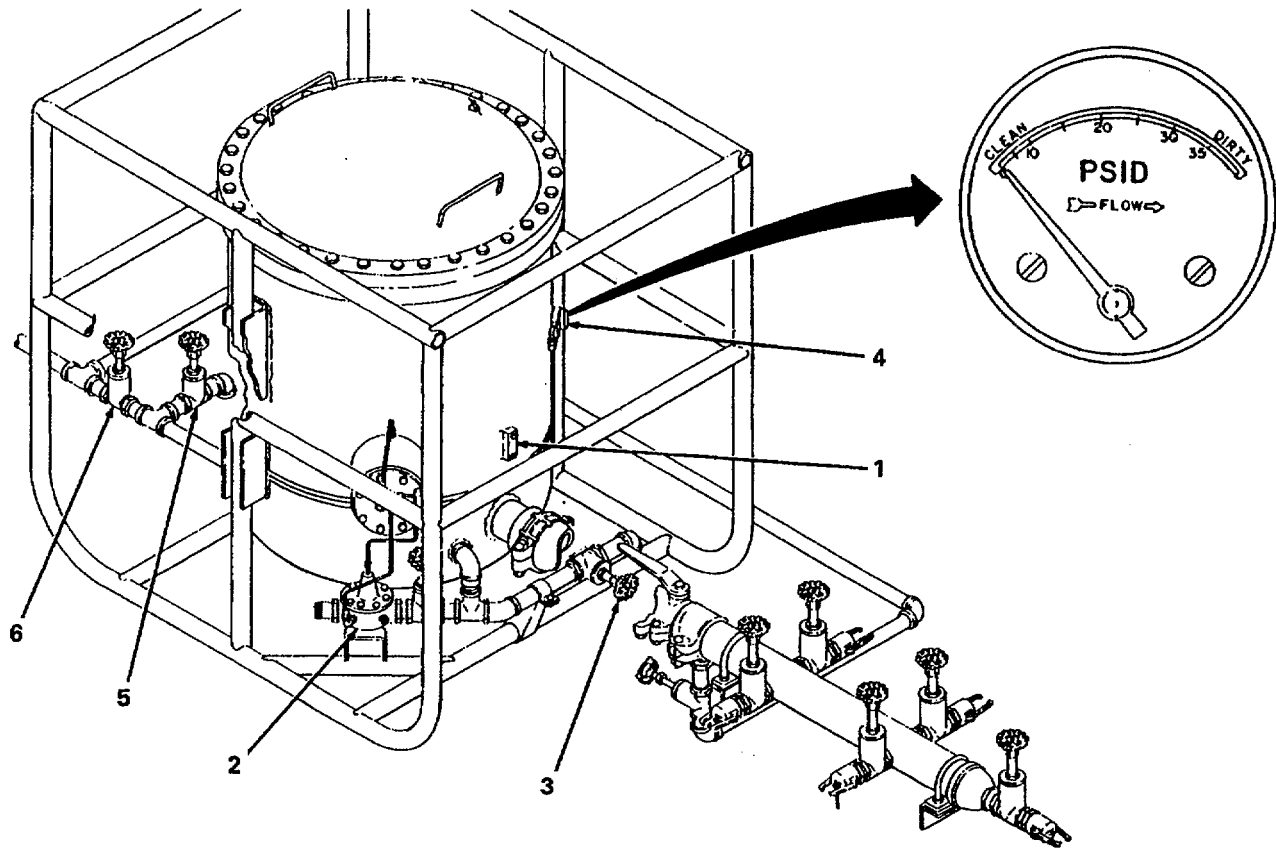

Figure 2-17. Fuel/Water Separator Operation.
f. *Fuel/Water Separator.* Operation of the valves associated with the fuel/water separator is included in the refueling operation procedures in paragraph 2-17, e., (3). In addition to those procedures, the operator should be aware of the following:
- (1) *Water level sight gage* (1, figure 2-17). The fuel/water separator is equipped with an automatic mechanism (2) designed to drain water from the canister, as required. The operator must, however, continue to check the water level sight gage periodically. If the ball inside the gage rises above the top black line on the gage, open the manual drain valve (3) until the water inside the canister has emptied into the containment trough. Then, close the valve.